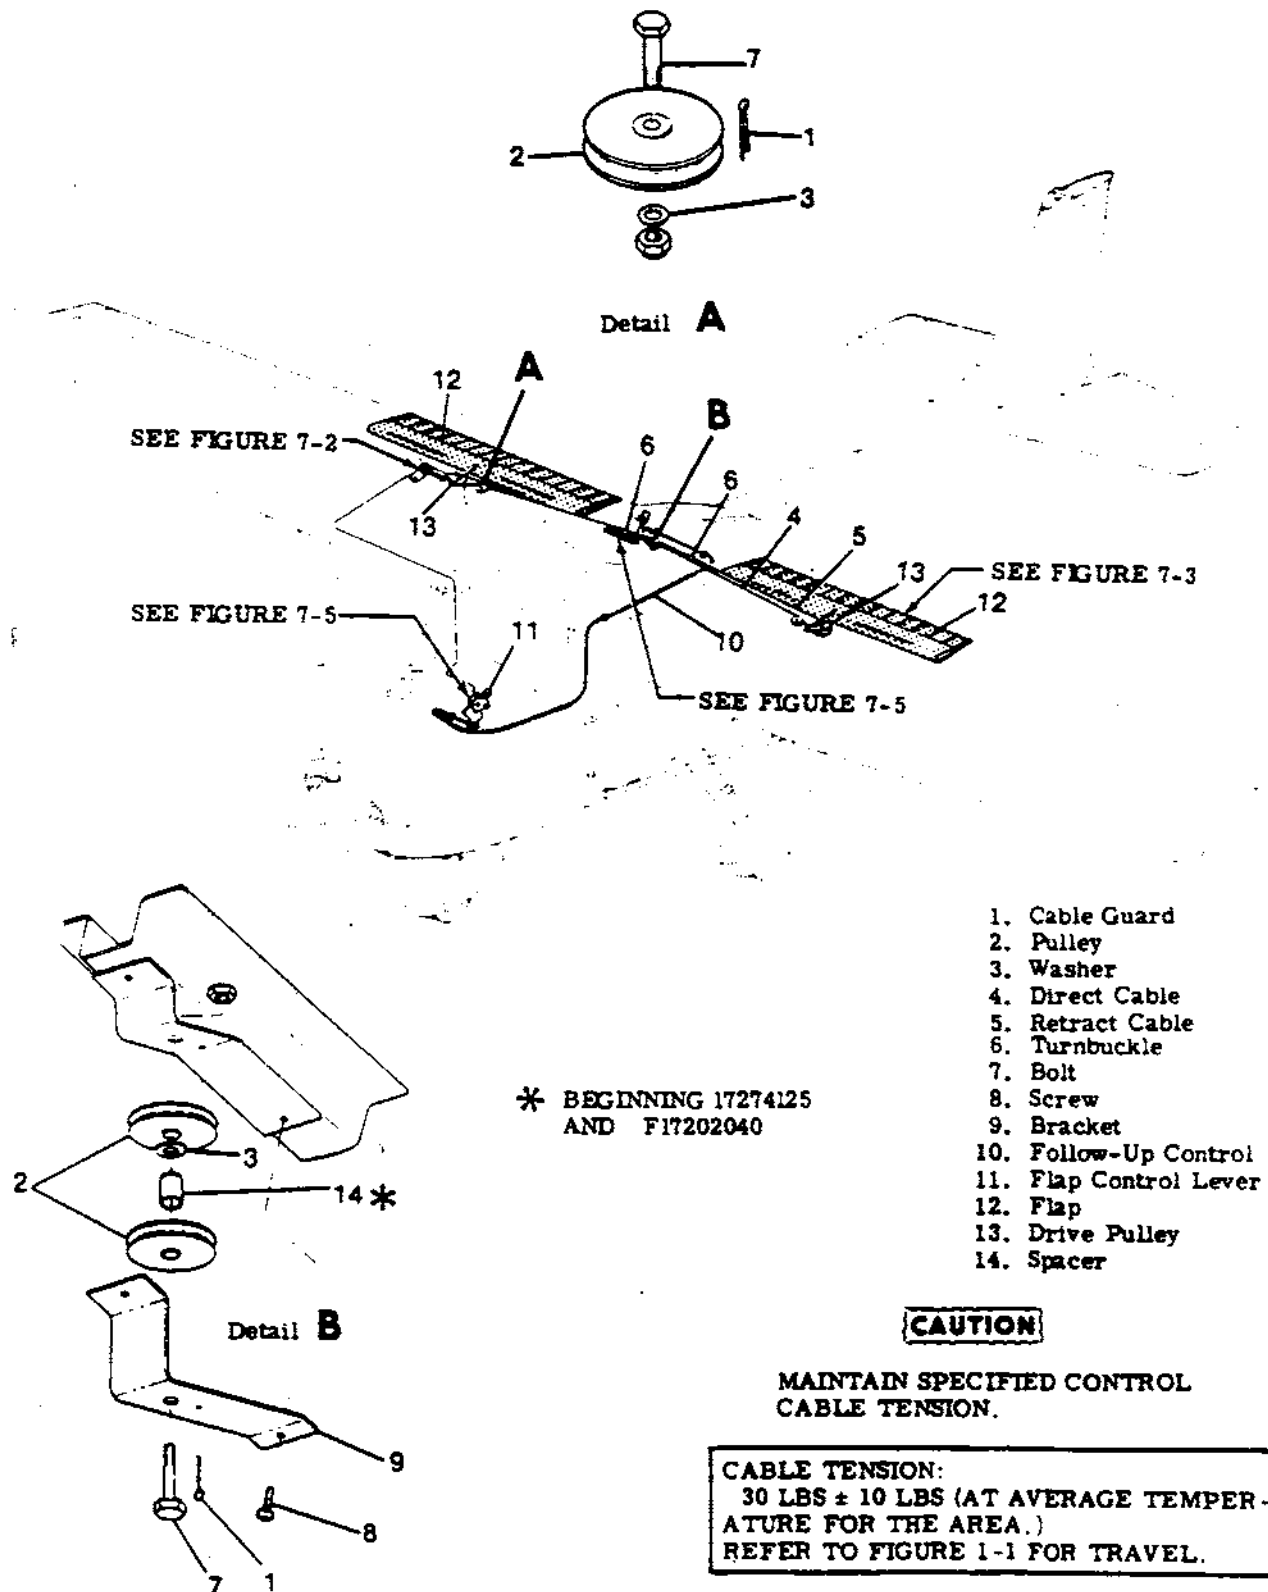
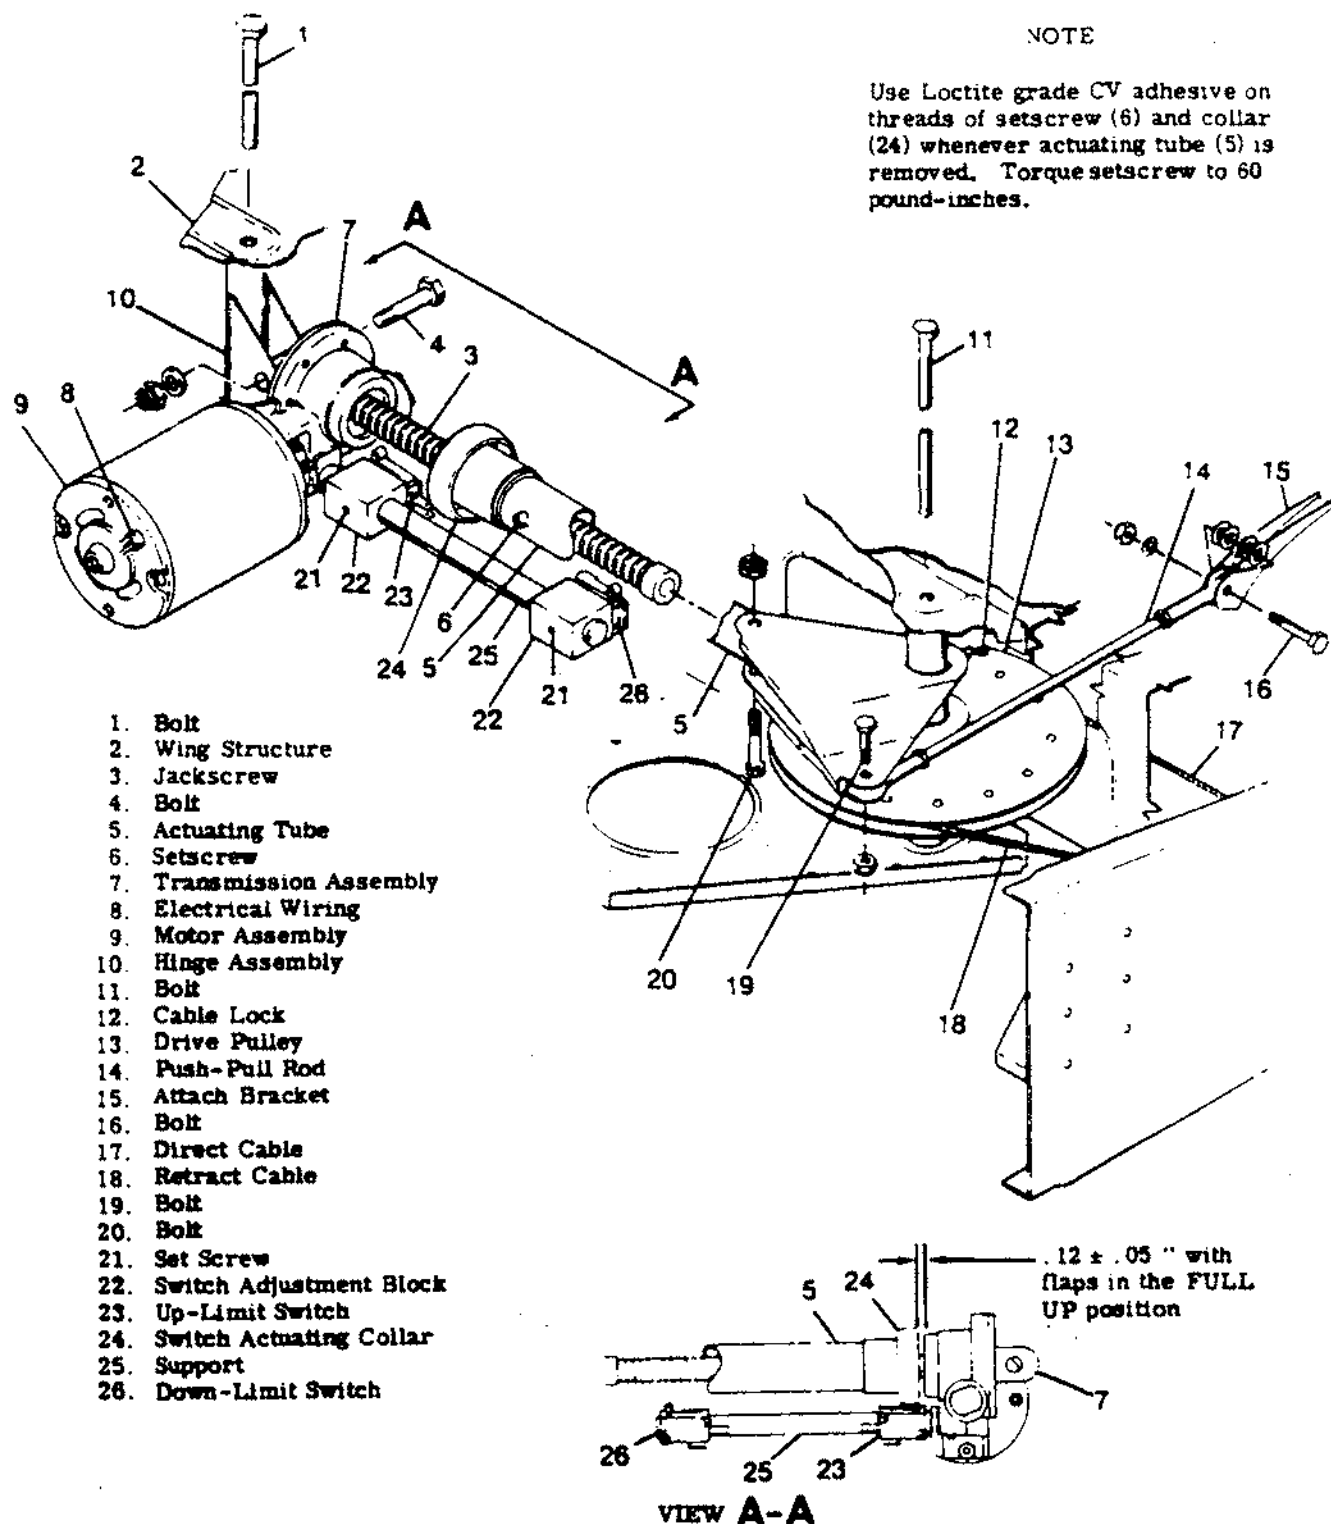

Figure 7-1. Wing Flap Control System
Figure 7-2. Flap Motor and Transmission Installation
7-1. WING FLAP CONTROL SYSTEM. (See figure 7-1.)
7-6. REMOVAL AND INSTALLATION (See figure 7-2.)
- 7-8. **DRIVE PULLEYS.** (See figure 7-2.)
- Remove access plate adjacent to drive pulley (13) in right wing.
- Unzip or remove headliner as necessary for access to turnbuckles (index 4, figure 7-1), remove safety wire and loosen turnbuckles.
- Remove bolt (19) securing flap push-pull rod (14) to drive pulley (13) and lower RIGHT flap gently.
- Remove bolt (20) securing actuating tube (5) to drive pulley (13) and lower LEFT flap gently. Retain bushing.
- Remove cable locks (12) securing control cables to drive pulley (13). Tag cables for reference on reinstallation.
- Remove bolt (11) attaching drive pulley (13) to wing structure.
- Remove access plates (1) from top leading edge of flap.
- Disconnect push-pull rod (6) at flap bracket (7).
- Remove bolts (5) at each flap track. As flap is removed from wing, all washers, rollers and bushings will fall free. Retain these for reinstallation.
- Reverse the preceding steps for reinstallation. If push-pull rod (6) adjustment is not disturbed, rerigging of system should not be necessary. Check flap travel and rig in accordance with paragraph 7-16, if necessary.
- 7-14. **CABLES AND PULLEYS.** (See figure 7-1.)
- a. (See figure 7-1.) Unzip or remove headliner as necessary for access to turnbuckles (6).
- c. (See figure 7-1.) Remove safety wire, relieve cable tension, disconnect turnbuckles (6) and carefully lower left flap.
- d. (See figure 7-2.) Disconnect push-pull rods (14) at drive pulleys (13) in both wings and lower RIGHT flap gently.
- e. Disconnect actuating tube (5) from drive pulley (13).
Temporarily connect cables at turnbuckles (index 6, figure 7-1) and test flaps by hand to ensure both flaps extend and retract together. If they will not, the cables are incorrectly attached to the drive pulleys. Ensure that the right drive pulley rotates clockwise when viewed from below, as the flaps are extended. Tag cables for reference and disconnect turnbuckles again.
- g. (See figure 7-2.) Screw actuating tube (5) IN toward transmission (7) by hand to $.12 \pm .05$ inches between switch actuating collar (24) and transmission as illustrated in View A-A.
- h. Loosen setscrew (6) securing actuating tube (5) to switch actuating collar (24) and hold collar to maintain $.12 \pm .05$ inch while holding RIGHT flap in the full UP position and adjust actuating tube (5) IN or OUT, as necessary to align with attachment hole in drive pulley (13).
- i. Apply Loctite grade CV sealant (or equivalent) to threads of setscrew (6) and torque to 60 inch-pounds.
- l. With flaps in full UP position, loosen setscrew (21) and slide up limit switch adjustment block (22) on support (25) to just activate switch and shut off electrical power to motor at this position. Tighten setscrew.
- m. Manually hold LEFT flap, full UP and connect control cables at turnbuckles (index 6, figure 7-1). Remove reference tags previously installed.
- n. With flaps full UP, adjust turnbuckles to obtain 30 ± 10 pounds tension on cables. Adjust retract cable (18) first.
- g. Observe inclinometer reading when flaps stop. Adjust flaps DOWN operating switch (18) in slotted holes on mounting arm (16) as required to obtain flap travel of 10° -0° -2°.
- h. Adjust flaps UP operating switch (20) to obtain positive clearance with cam (19) when flaps DOWN operating switch has just opened in the 10° position.
- j. Run flaps to full DOWN position at the degree of travel specified in figure 1-1. Check that flaps DOWN operating switch (18) remains closed as flap motor limit switch (index 26, figure 7-2) stops flaps in full DOWN position.